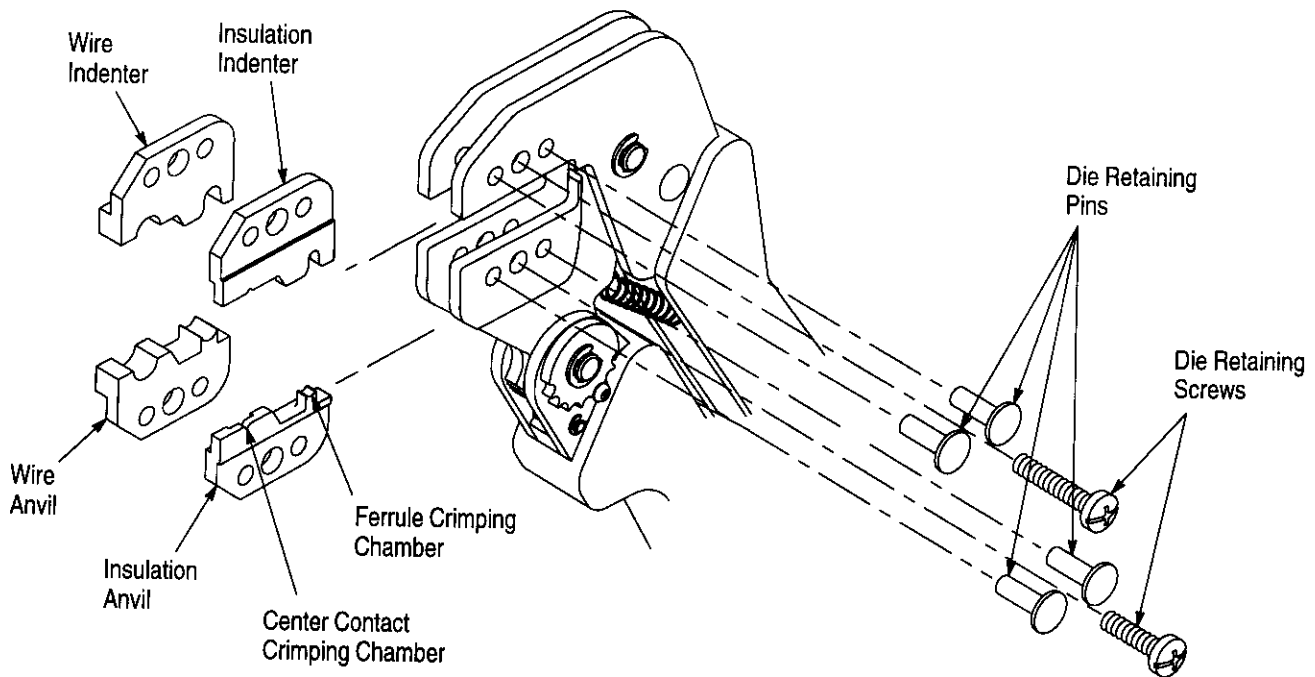

Figure 2
3. INSTALLATION AND REMOVAL OF DIE ASSEMBLY (Figure 2)